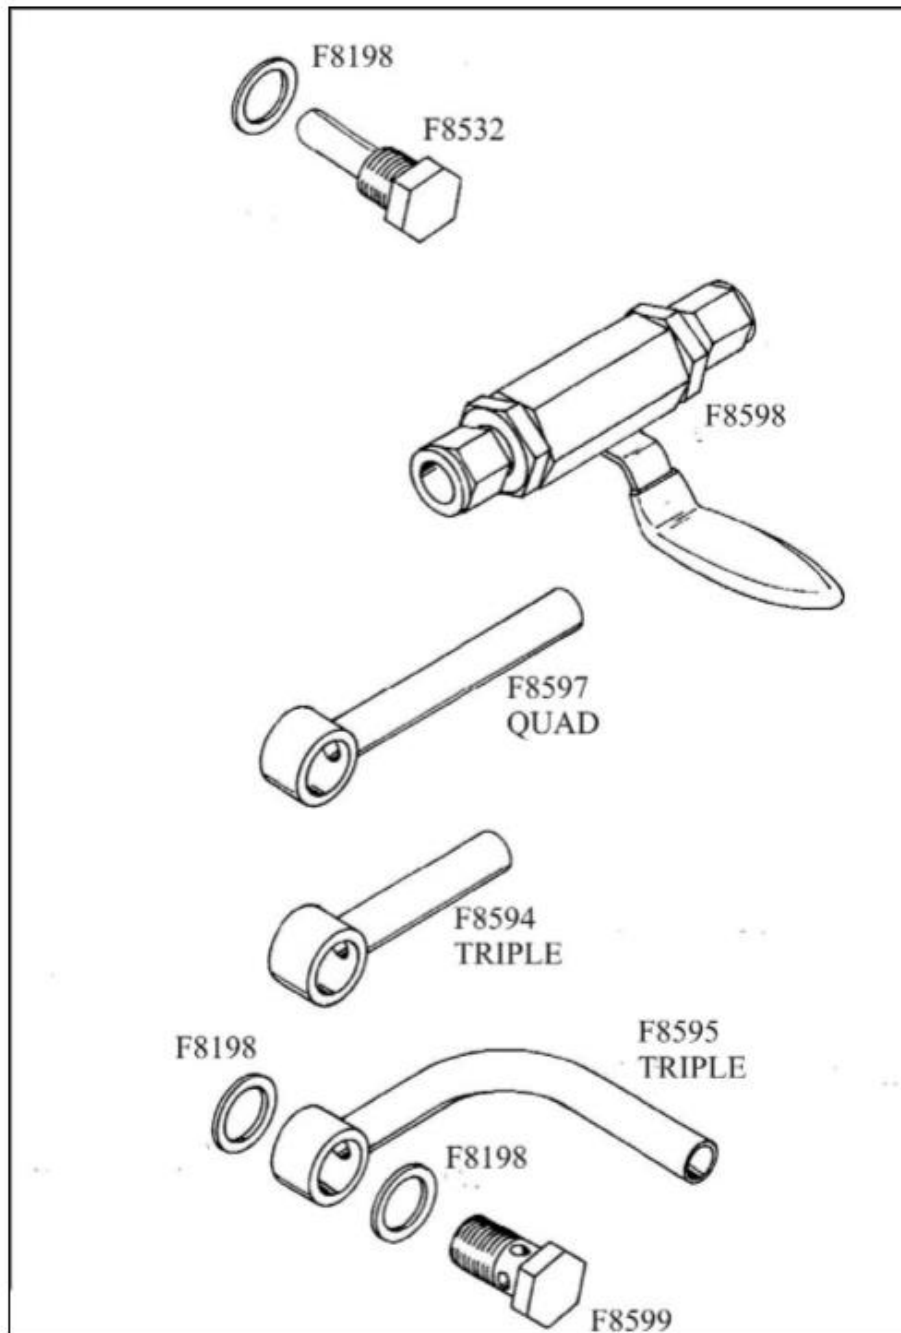

Figure 7: CROSSFLOW VALVE
7. CROSSFLOW VALVE TRI & QUAD BURNERS ONLY: Figure 7